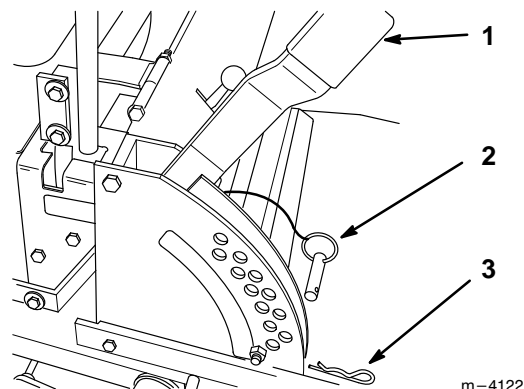

Figure 11
1. Raise the height-of-cut lever to the transport position (also the 4-1/2" (114 mm) cutting height position) (Fig. 11).
2. To adjust, remove hairpin cotter and clevis pin from height-of-cut bracket (Fig. 11).
3. Select hole in height-of-cut bracket corresponding to the height-of-cut desired. (Fig. 11).
4. Secure clevis pin with hairpin cotter (Fig. 11).
5. Lower height-of-cut lever onto pin (Fig. 11).